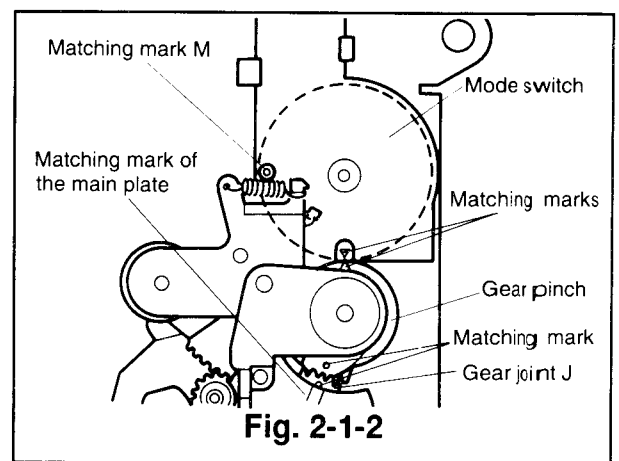

Fig. 2-1-2
- ① Make sure that the holes (matching mark M) on the body and cogwheel of the mode switch align with each other as shown in Fig. 2-1-2. At the same time confirm that the hole of the gear pinch aligns with the matching marks of the gear joint J and the  $\nabla$  mark on the mode switch cogwheel, refer to Fig. 2-19-5. This indicates the J deck is in the EJECT mode.